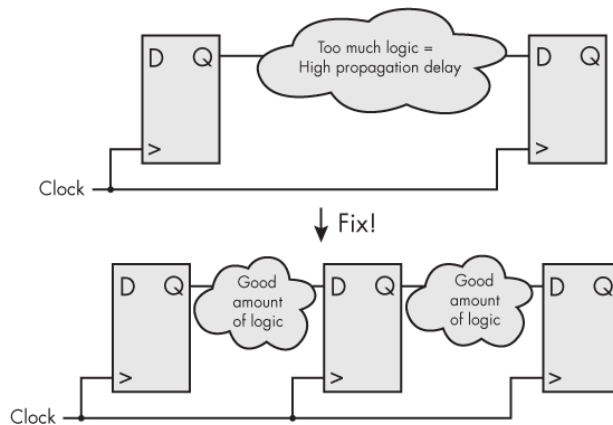

Figure 7-5: Reducing the propagation delay through pipelining
Breaking up your logic into stages, also known as *pipelining*, is the more robust (and often the only) option. If you do less "stuff" between any two flip-flops, the propagation delay will decrease, and it will be easier for your design to meet timing. Figure 7-5 illustrates how this works.
division, addition, and multiplication—on the value of `r0_Data` ❶. All three of these operations are performed on the same line, inside a synchronous `always` or `process` block, which means they must occur within one clock cycle. To do all that math, the output of the 8-bit-wide register `r0_Data` will pass through a bunch of LUTs, then into the inputs of the flip-flops for `o_Data`, all within one clock cycle. This puts us firmly in the upper half of Figure 7-5: the mathematical operations require a lot of logic and will create a considerable propagation delay.